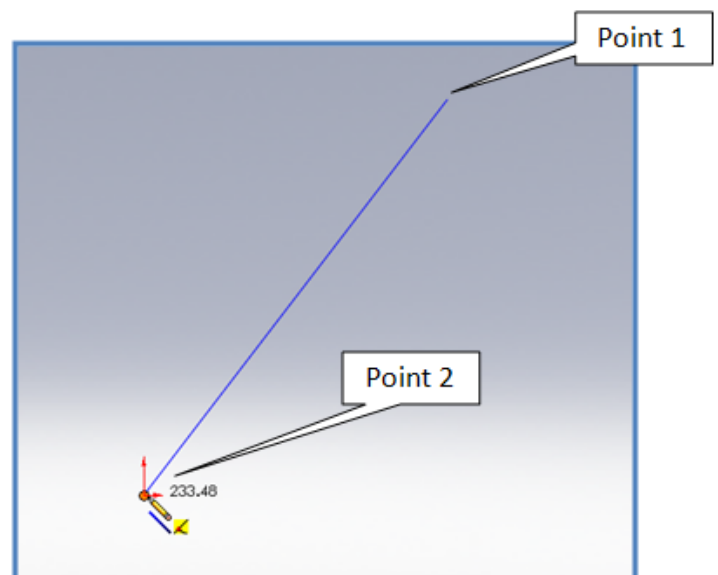

Figure 2
- To begin sketching, left click on the Front Plane to the right of the **origin** as shown (figure 2 - Point1).
- Click on the origin (as shown in figure 2 – point 2) to indicate the line end point.